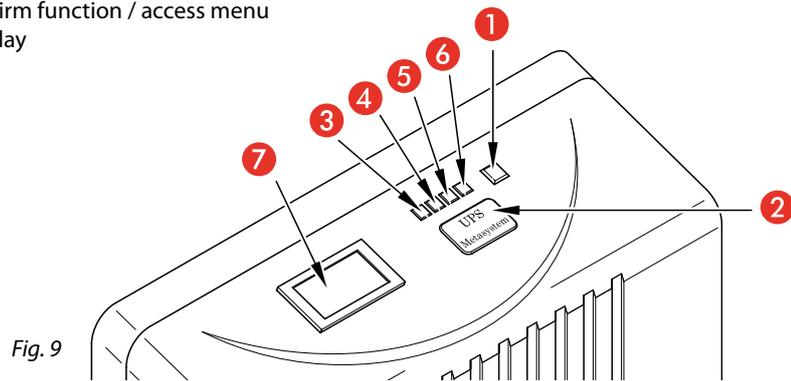
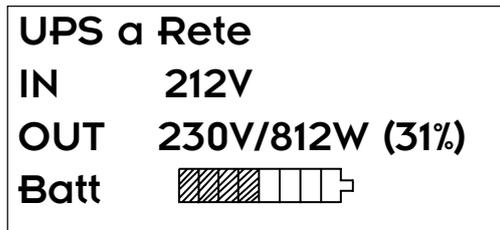

Fig. 9
Fig. 14
**Switching ON:** press ON/OFF button [1] (fig.9). The display shows the operating status (fig.14)
**Switching OFF:** press ON/OFF button for a few seconds [1] (fig.9).